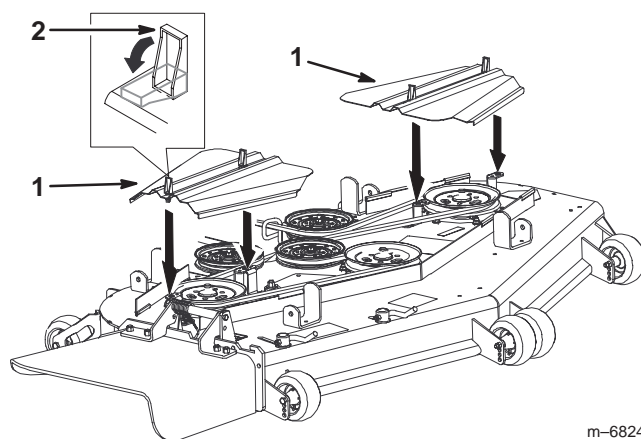

Figure 74
- Remove the belt covers (Fig. 74).
10. Install the belt covers and close the latches (Fig. 74).